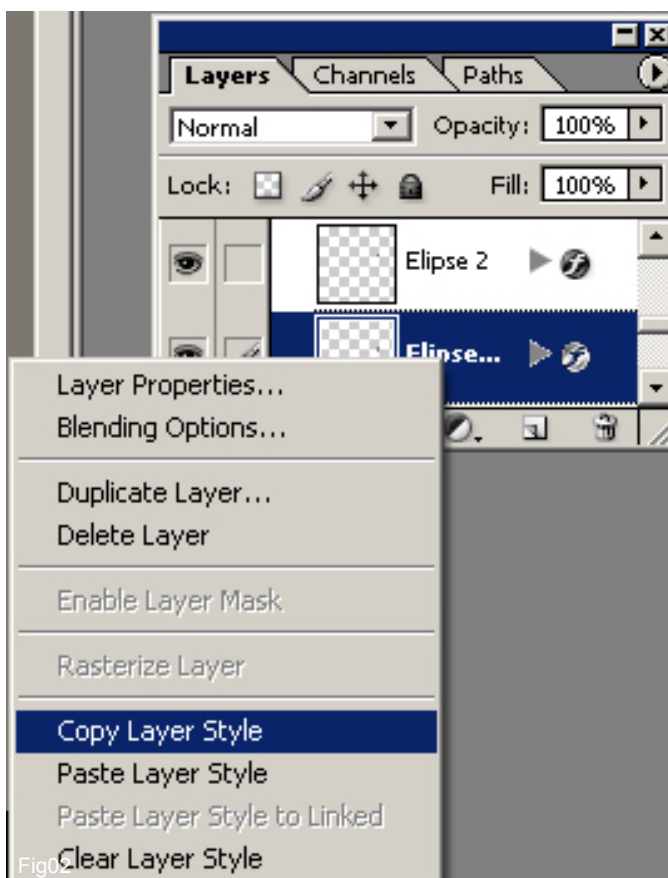

Fig02
2. One more thing which will help is to add a subtle Drop Shadow, which you can find at the top of the list. Check the tickbox and then slide the Distance arrow down to zero and increase the Size and Spread until there is a soft shadow around the ellipse. Now, on a new layer, create a smaller ellipse inside this one and fill it with the same grey colour. Right-click on the ellipse 1 layer and select Copy Layer Style and then paste this into the new layer, as shown in Fig.02. You will now have two ellipses that both incorporate an emboss and drop shadow.